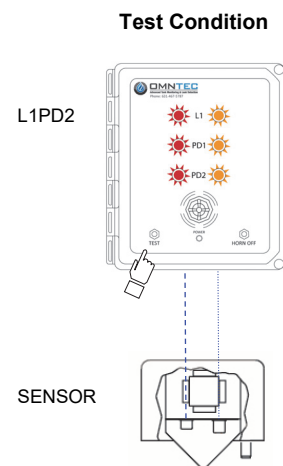

Figure 3
- b) Hit the test button on alarm panel and observe panel lights (see figure 3).